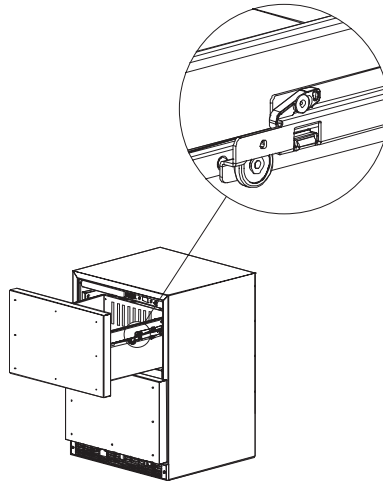
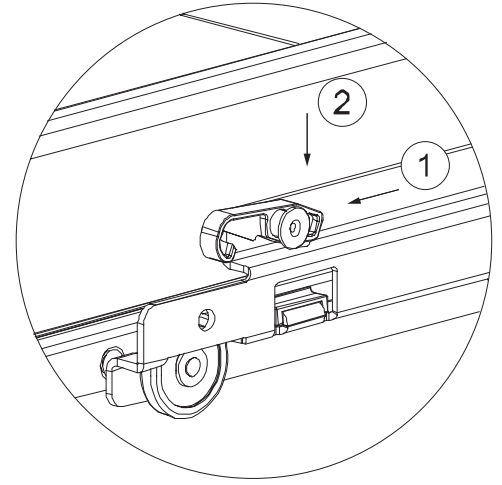

Figure 1
Figure 2
1. Remove drawer from unit. Begin by pulling out the drawer. Locate the drawer lock which can be found on the outside of the cabinet slide (Figure 1). Push the back of the drawer lock forward and then down, releasing the drawer from the cabinet slide (Figure 2). Repeat this on the opposite side of the drawer. Lift the drawer up from the slides at 90° to fully remove the drawer from the cabinet (Figure 3).
2. Remove drawers. (This is not required to remove the light, but will provide better access). See Figures 1 through 3 in Full Overlay Panel Installation on page 6.